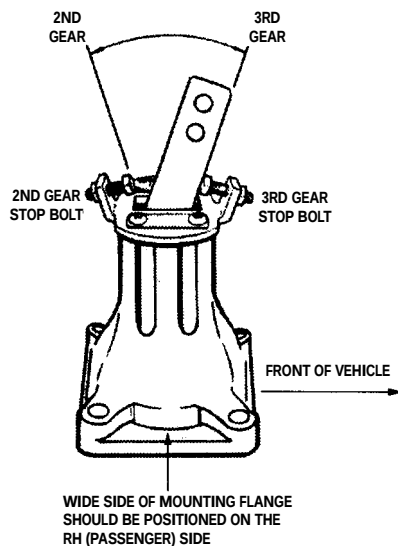

FIG. 2
14. Turn adjuster bolts located in stop bolt frame so that heads are away from shifter stick. Pull stick firmly into 2nd gear and hold securely. Back rear stop bolt out until head contacts stick. Hold bolt secure with wrench and tighten jam nut (Refer to Fig. 2). Repeat adjustment on forward stop bolt. Push stick firmly into 3rd gear, and hold securely. Back forward stop bolt out until head contacts stick. Hold bolt secure with wrench and tighten jam nut.